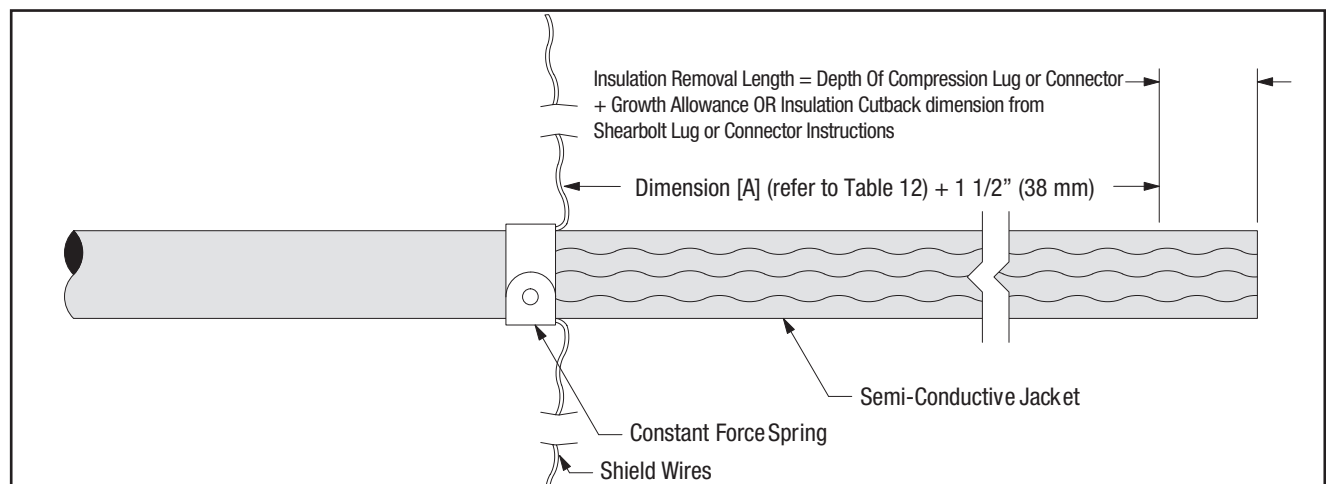

Figure 16
- 12.2 Prepare cable using dimensions shown in Figures 16, 17 and 18. **BE SURE TO ALLOW FOR DEPTH OF TERMINAL LUG OR CONNECTOR.**
- 12.4 Install constant force spring as shown in Figure 16. Pull shield wires through semi-conductive jacket to leading edge of constant force spring (Figure 16).
| Additional Semi-Conductive Jacket Length | + 1.5" | + 38 mm | Value from figure 16 |